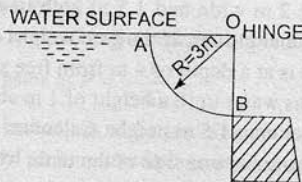

Fig. 3.58
19. Fig. 3.58 shows a gate having a quadrant shape of radius of 3 m. Find the resultant force due to water per metre length of the gate. Find also the angle at which the total force will act. [Ans. 82.201 kN, $\theta = 57^\circ 31'$]